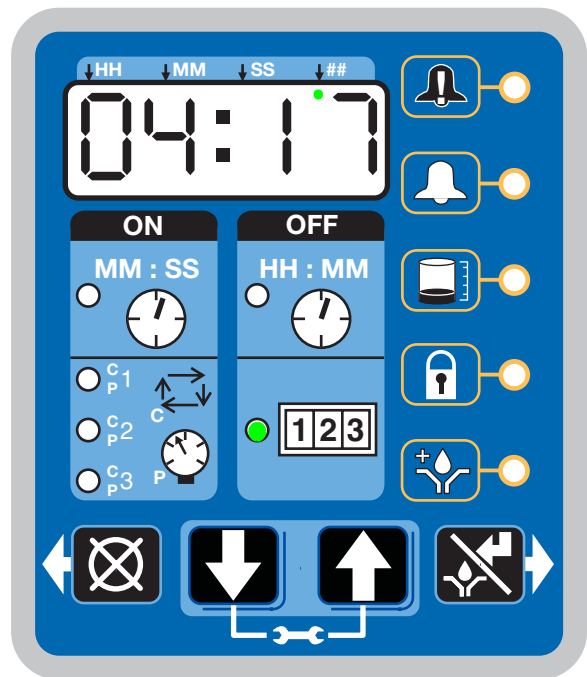

FIG. 23
- The LED next to 1-2-3 illuminates (FIG. 23).
The example shown in FIG. 23 shows 4 hours and 17 minutes remaining until a fault occurs.